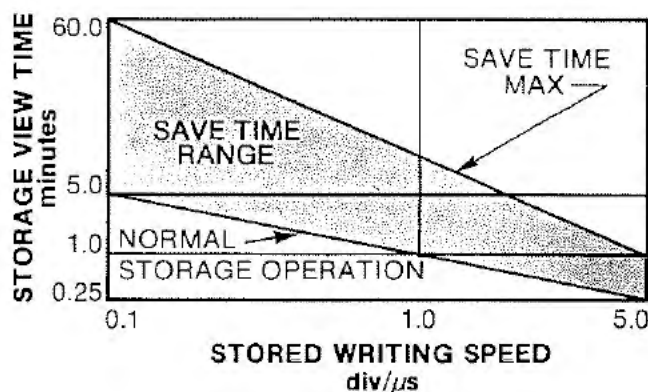
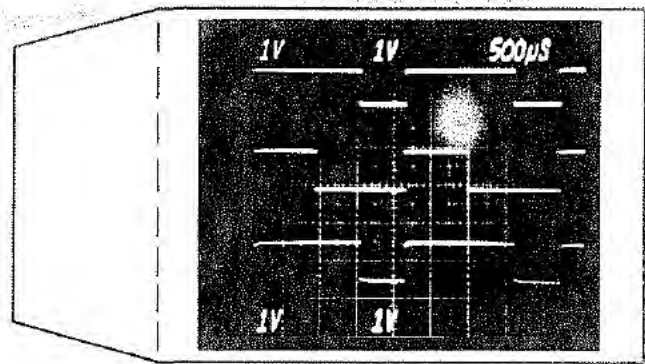

Fig. 2. Graph showing extended view time available in SAVE mode. The higher the stored writing speed needed, the shorter the view time.
Fig. 8. Sequence of events is handily displayed by the fading characteristic of Variable Persistence storage displays.
The high contrast ratio (stored image to background brightness ratio) of Variable Persistence provides much greater contrast than the 4:1 best-case contrast ratio of Bistable storage. This high contrast ratio comes at the cost of view time. While Bistable storage techniques provide up to weeks of view time, Variable Persistence is limited to a few minutes. View time available is proportional to the stored writing speed needed, as illustrated in Figure 2. Also, as shown in Figure 2 you can increase view time by using the SAVE mode of operation.
For many applications, limited view time offers a measurement advantage. With Variable Persistence, once a signal is stored it automatically starts to fade away. This characteristic automatically erases the display. It also illustrates the sequence in which the events occurred (Fig. 8). A persistence control allows you to choose the rate at which the stored signal fades. The controllable range varies from the specified view time at maximum writing speed (see Fig. 2), to almost instant disappearance.
- Identifying the order in which signals occurred (Fig. 8)